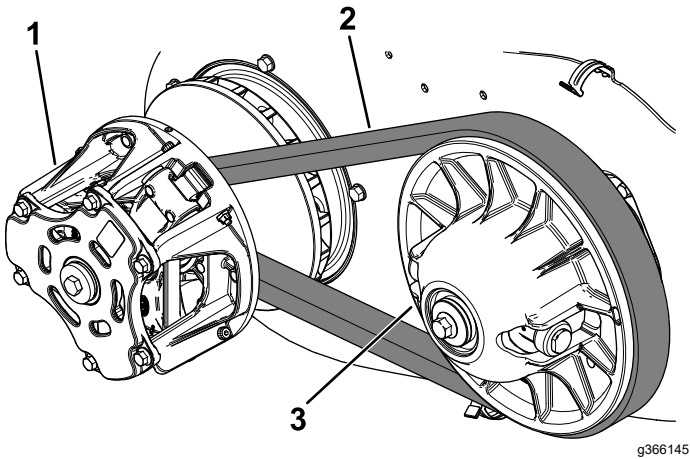
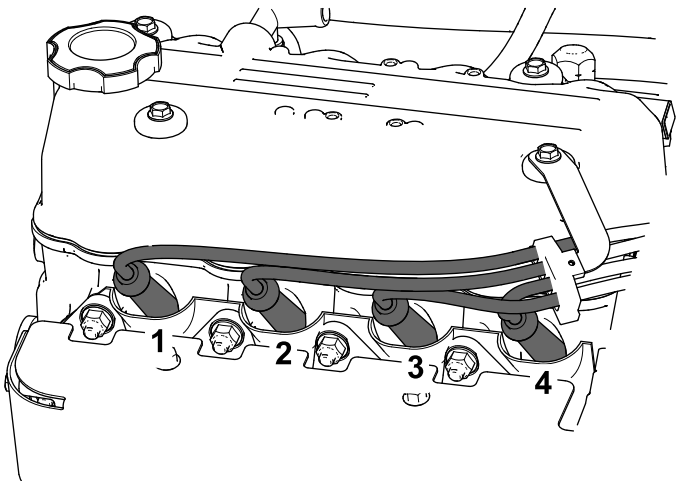

Figure 107
Figure 108
- Rotate the primary clutch (Figure 107) until the exhaust valve on cylinder 1 (Figure 108) is completely open.
1. Rotate the primary clutch (Figure 107) until the intake valve on cylinder 1 (Figure 108) is completely open.